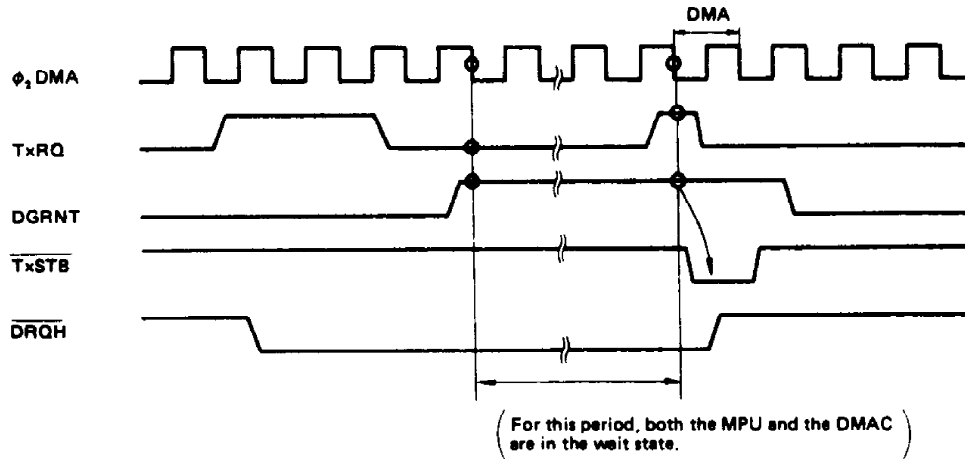

Figure 14 Extraordinary TxRQ Input (1)
- (1) In the case where TxRQ becomes "High", but it is reset to "Low" before DGRNT becomes "High". In this case, the DMAC is in the wait state without sending out TxSTB until TxRQ rises to "High" again. As $\overline{\text{DRQH}}$ remains "Low" the MPU is forced to be stopped, and the system is in dead lock state until TxRQ rises to "High" again (Fig. 14).